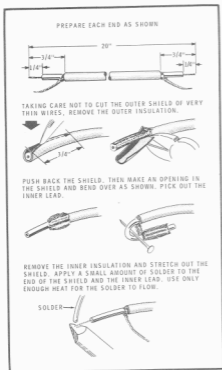

Figure 3-4
Refer to Figure 3-4 for the following steps.
- ( ) Prepare the ends of the cable as before. See Figure 3-4.